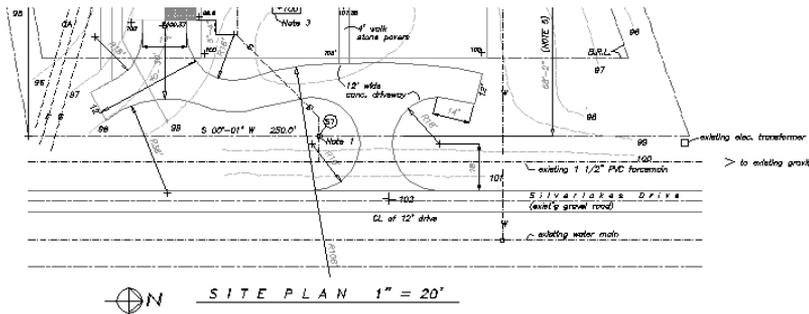

Figure 16-33: The parallel lines at the bottom of the site plan can be drawn by using a multiline.
2. Save the file as `ab16-07.dwg` in your AutoCAD Bible folder. This is a site plan, shown in Figure 16-33.